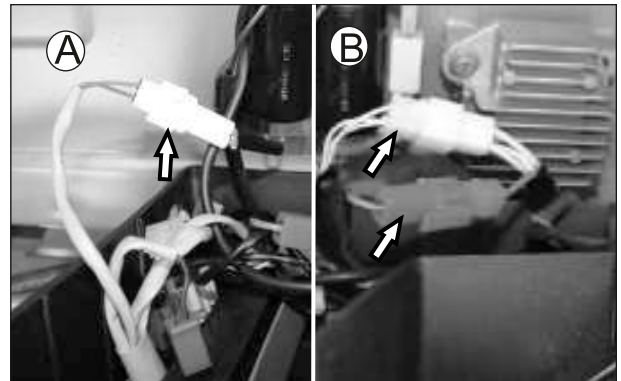

Fig. 5.101
- Disconnect output wire from TCI coupler to ignition coil.(A) (Fig. 5.101)
- Disconnect RR unit coupler from wiring harness.(B) (Fig. 5.101)